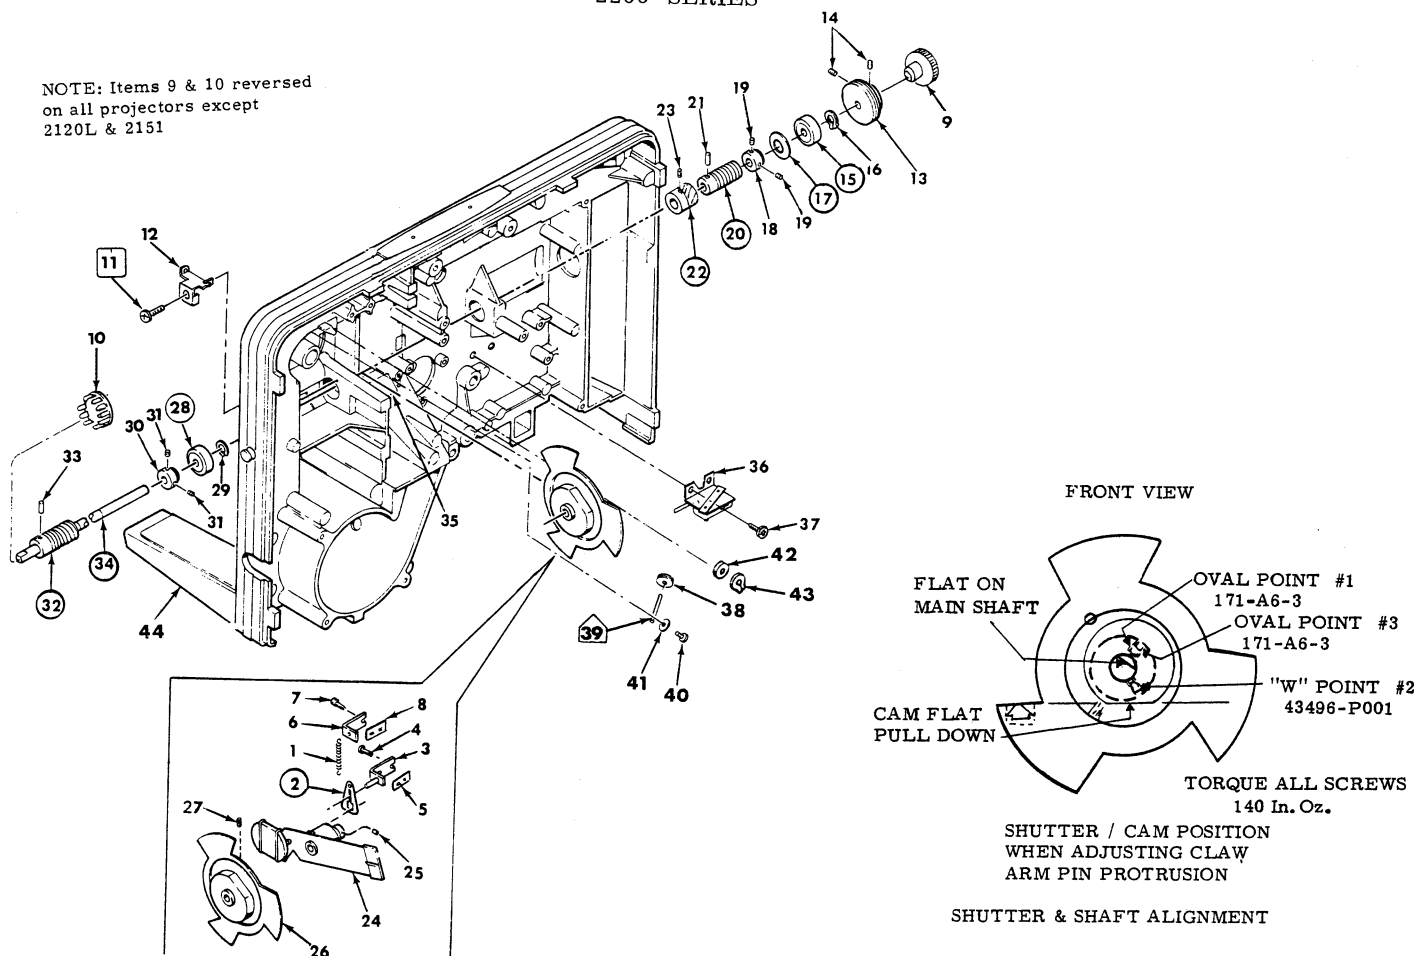

Figure 3-19. REMOVAL AND REASSEMBLY OF MAIN SHAFT
2. Loosen both Set Screws (14) in the Pulley (13) so the Pulley will rotate freely on the Main Shaft. (Figure 3-19)
3. Loosen both Set Screws (19) in the Collar (18) so the Collar will rotate freely on the Main Shaft (34).
4. Loosen Set Screw (23) in the pinion (22) so the Pinion will rotate freely on the main shaft.
5. Remove the oval point Jam Screw (27) and loosen the remaining two Set Screws in the Shutter and Cam Assembly (26) so the Cam Assembly will rotate freely on the Main Shaft.
6. Loosen both Set Screws (31) in the Collar (30) so the Collar will rotate freely on the Main Shaft.
7. Loosen Set Screw (25) in the Safety Shutter (24) so the collar of the Safety Shutter rotates freely on the Main Shaft. Unhook the Link (2) from the Safety Shutter and allow the Spring (1) to pull the Link against the Pin on the Bracket Assembly (3). (Disregard for projectors having no Safety Shutter.)
9. Rotate the Main Shaft (34) until the flat on the shaft just behind the Front Bearing (28) is at about 2 o'clock (See Shutter and Shaft Alignment insert on Figure 3-19). Rotate the Shutter and Cam Assembly (26) until the Setscrew (#1 in insert) lines up with the flat on the Shaft (34). Gently push the Shutter and Cam Assembly forward while pushing down on the Claw Arm until the cam follower on the Claw Arm slips under the the Cam. Tighten the Setscrew (#1 in insert) on the flat of the Shaft (34). Make sure the Claw Arm is not hitting the Aperture Plate.